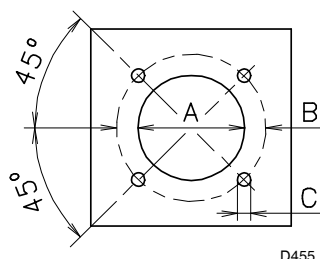

Fig. 11
Drill the combustion chamber locking plate as shown in (Fig. 11).
- Place entire burner on the boiler hole arranged previously, see (Fig. 11), and fasten with the screws given as standard equipment.